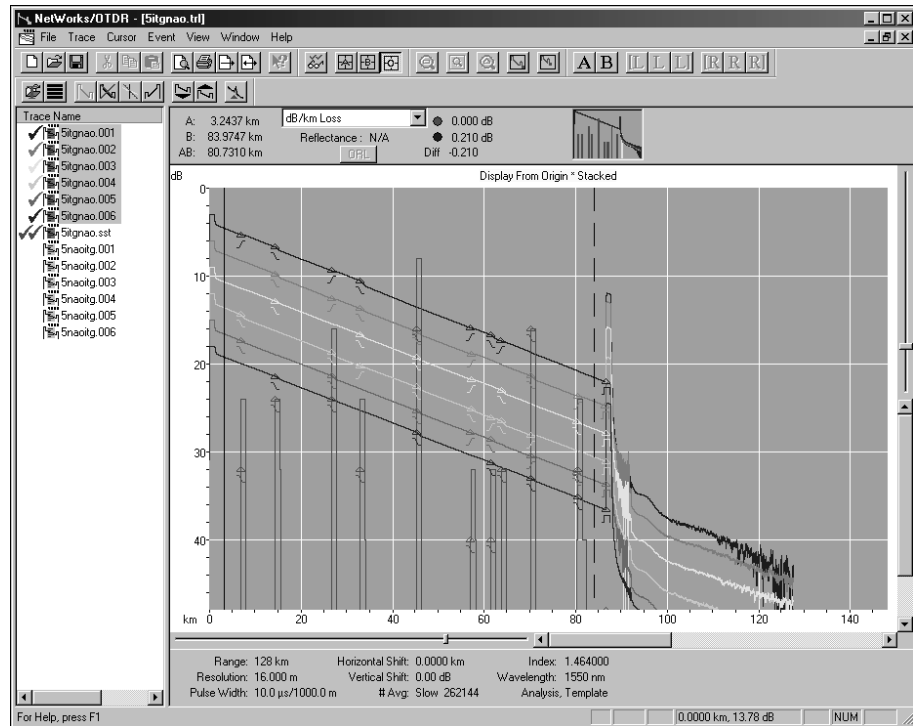

Figure 12-3: Smart Splice Template Trace
9. Click **OK** to create the smart template trace, as shown in Figure 12-3. The printed report is shown in Appendix C.